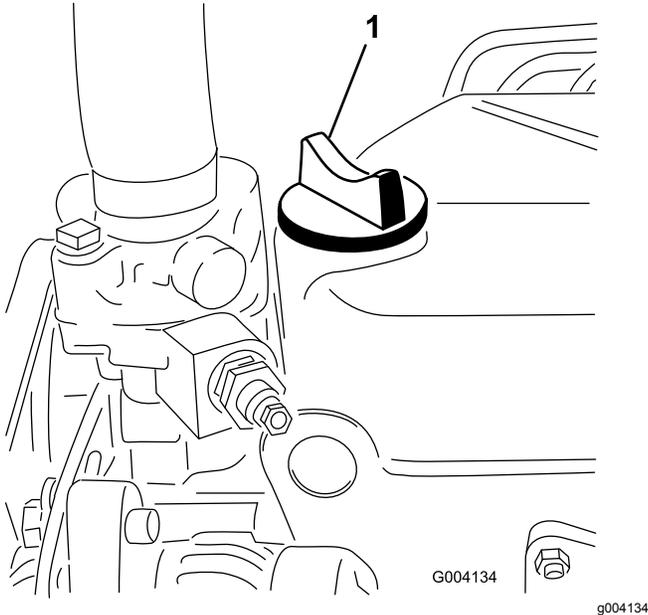

Figure 30
- If the oil level is below the FULL mark, remove the fill cap (Figure 30), and add oil until level reaches the FULL mark on the dipstick.